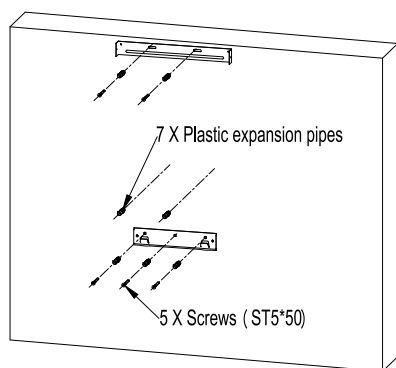

Fig.4
- Fix installation plate and extension chimney installation plate, install the plastic expansion pipes of chimney installation plate on wall. See Fig.4.